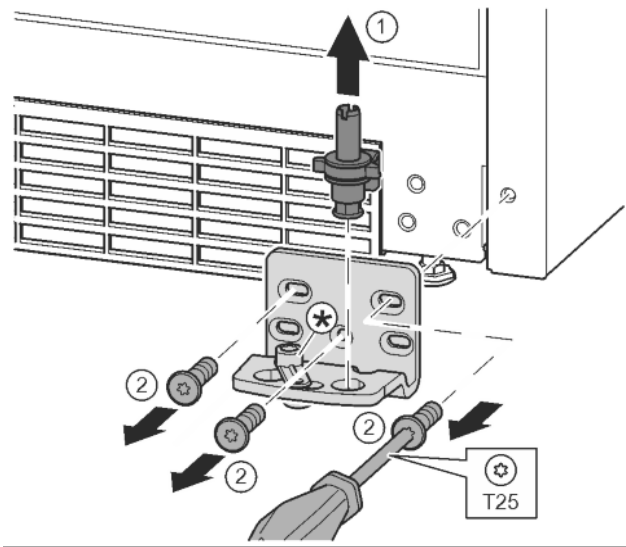

Fig. 16
- Lift the bearing pin completely upward and remove. Fig. 16 (1)
- Undo the screws with a T25 screwdriver and remove the bearing bracket Fig. 16 (2)